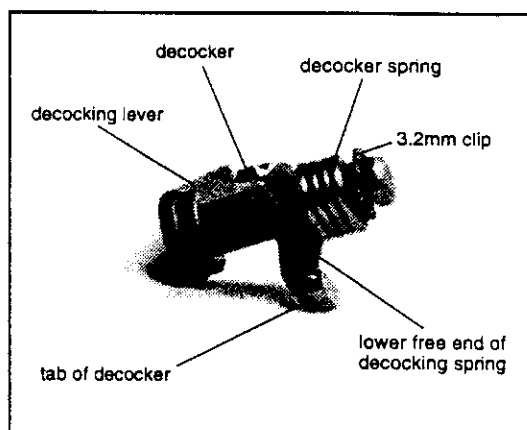

Figure 16
1. Insert decocking lever (50) into left side of the frame (46).
2. Using the tweezers, position the decocker (27) onto the axle of the decocking lever (50) so the tab of the decocker is below the axle and curved to the right side of the frame (see Fig. 16).
3. Again using the tweezers, place the decocking spring (26) on the axle of the decocking lever (50). Insure that the free ends of the spring lay flat against the angled surface of the frame forward of the decocking lever axle.
4. Use the C-clip holder to attach the 3.2 mm c-clip (25) to the end of the decocking lever axle.
5. Using the spring fitting tool, engage the lower free end of the decocking spring (26) onto the tab of the decocker located below the axle of the decocking lever (50). Use your free index finger to stabilize the spring (26) by placing pressure on the top of the free end of the decocking spring (26).
6. Check the decocking lever (50) for:
- c. presence of C-clip (25) on axle.